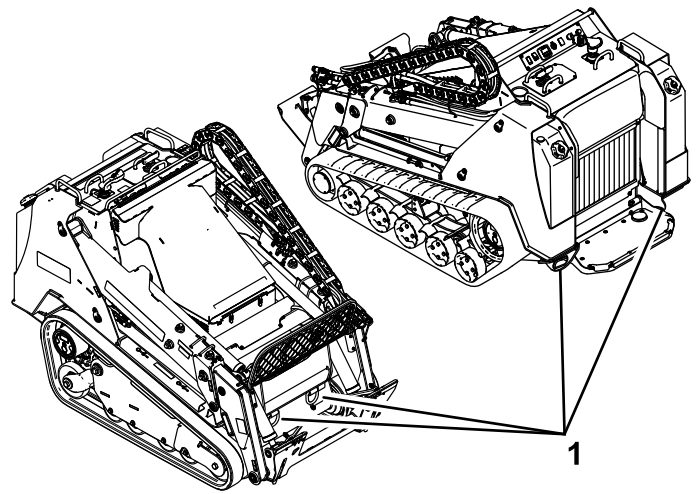

Figure 34
6. Tow the machine as required using the tie-down locations (see Figure 34).
8. Use the metal tie-down loops on the machine to securely fasten the machine to the trailer or truck with straps, chains, cable, or ropes (Figure 34). Refer to local regulations for tie-down requirements.